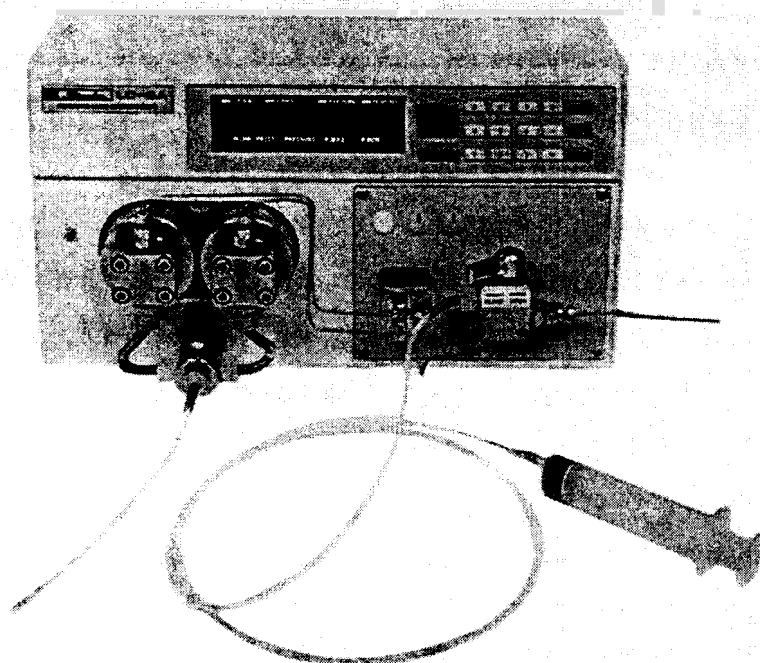

Fig. 6.3 Connection of Disposable Syringe
- ① Make sure that a high flow resistance part such as a column is connected to the carrier outlet port.
- ② Connect a disposable syringe to the drain pipe (Fig. 6.3).
- ③ Run the pump at 40 mL/min and draw liquid into the syringe vigorously.